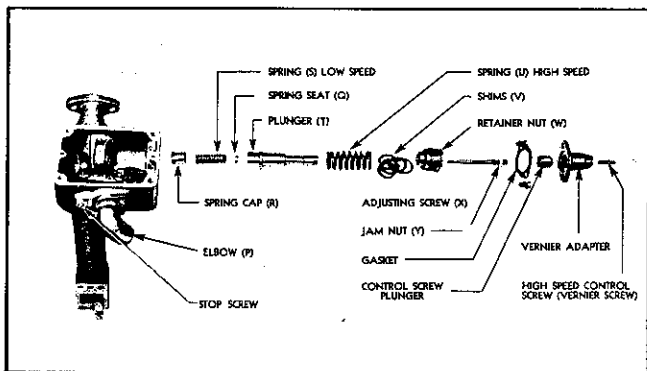

Fig. 25—Constant Speed Mechanical Governor Control Housing Details.
- (b) Remove vernier adaptor from upper end of governor control housing (See Fig. 25). Loosen lock nut and turn low speed adjusting screw IN until about $\frac{1}{16}$ " projects from lock nut.
- (a) Remove vernier adaptor from upper end of governor control housing, as shown in Fig. 25, and loosen lock nut on low speed adjusting screw.